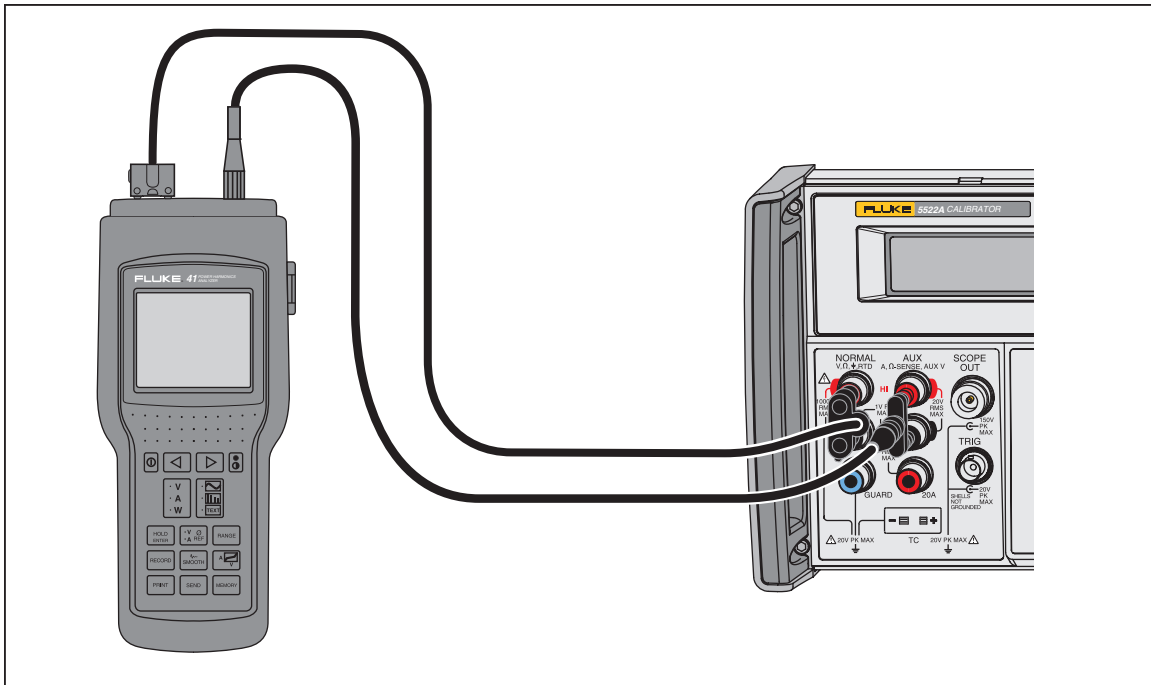

Figure 4-21. Cable Connections for Testing a 40 Series Watts Function
1. Connect the calibrator to the Model 41 as shown in Figure 4-21.